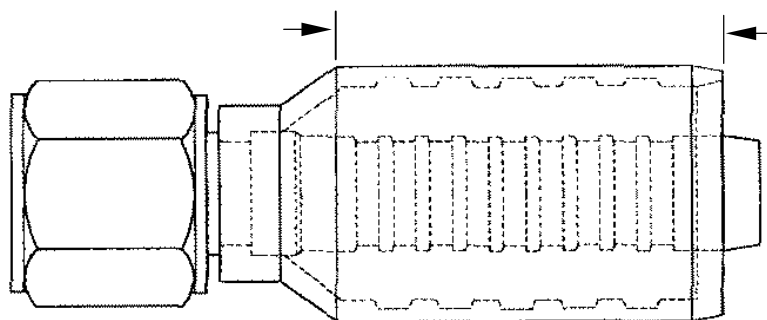

Figure 3-1. Representative Swage Fitting Illustrating Hose-to-Ferrule Insertion Dimension
- c) Measure the ferrule from the hose entry end of the ferrule to the inner shoulder of the spigot (see Figure 3-1). Measure this distance from the end of the hose and mark it circumferentially.
3. Measure the ferrule from the hose entry end of the ferrule to the inner shoulder of the spigot (see Figure 3-1). Measure this distance from the end of the hose and mark it circumferentially.